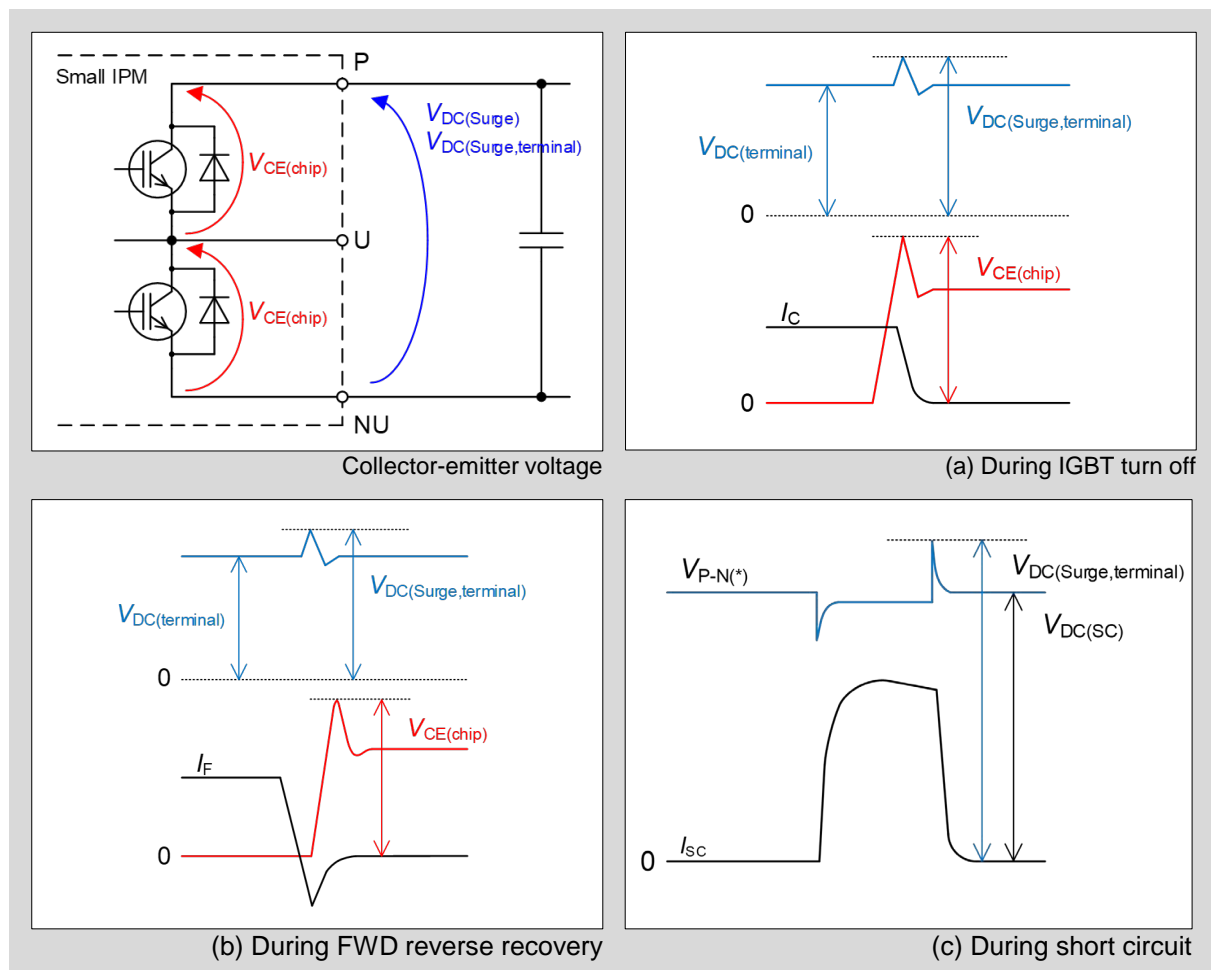

Fig.1-6 Waveforms and Collector-Emitter voltage during IGBT turn-off, FWD reverse recovery, and short-circuit
- Fig.1-6 shows the waveforms during short-circuit, IGBT turn-off and FWD reverse recovery. Since  $V_{DC(Surge,terminal)}$  is different in each situation, it is necessary to set  $V_{DC(terminal)}$  considering these situations.